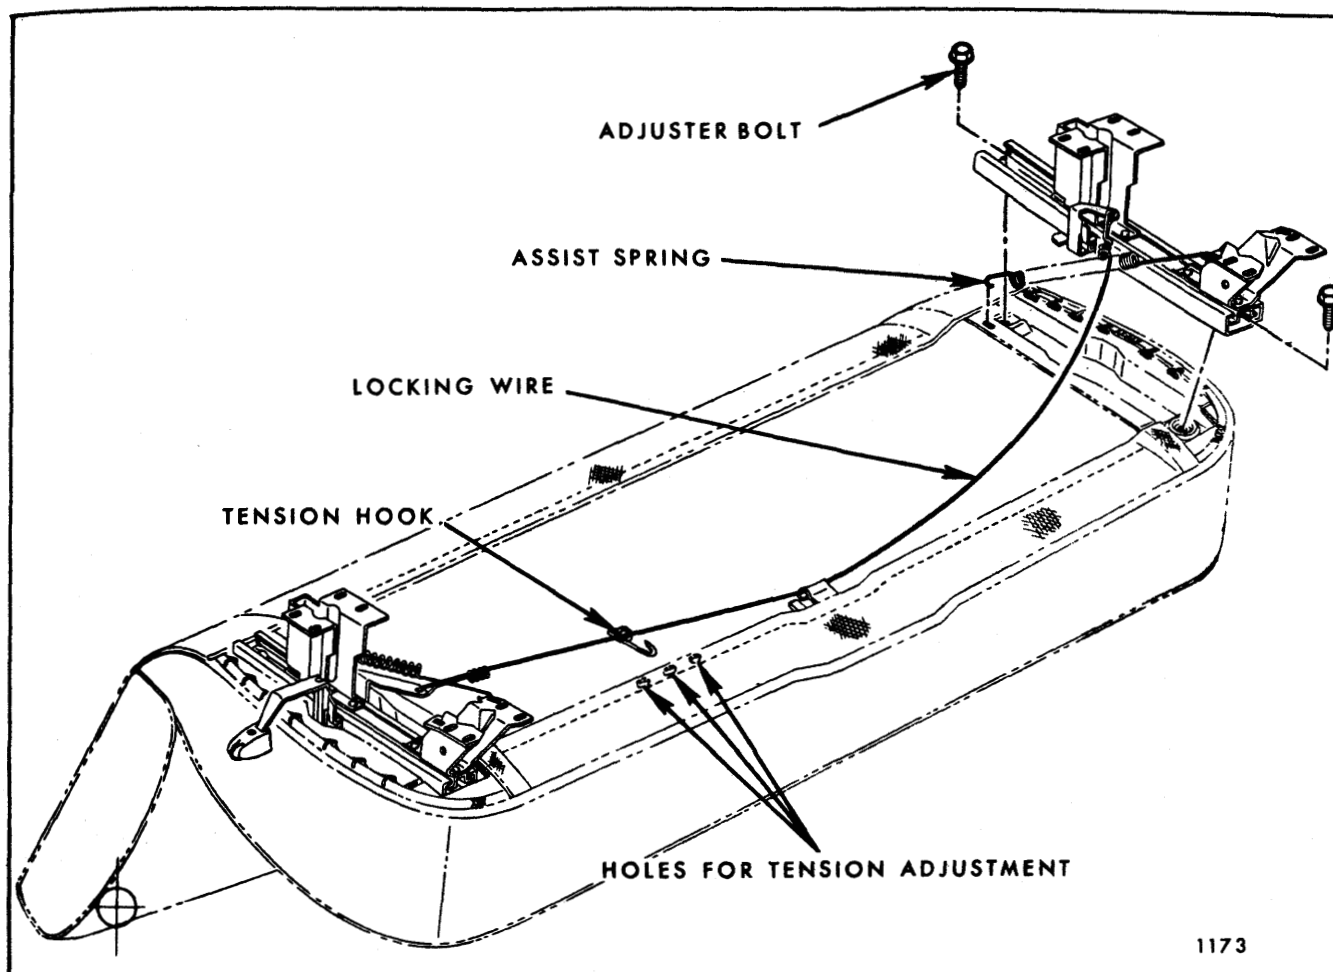

Fig. 10-3—Manually Operated Seat Adjuster Installation - "B & C" Shown "A, X & Z" Typical
2. Remove seat adjuster assist spring from adjuster to be removed (Fig. 10-3).
5. Remove adjuster-to-seat bottom frame front and rear attaching bolts (Fig. 10-3) and remove seat adjuster from seat.
After installing adjusters to seat frame, check operation of adjusters. If adjusters do not lock or unlock satisfactorily when control handle on left adjuster is operated, disengage locking wire retainer from hole in seat bottom frame and engage retainer in one of adjacent holes to obtain proper tension in wire. (Fig. 10-3)